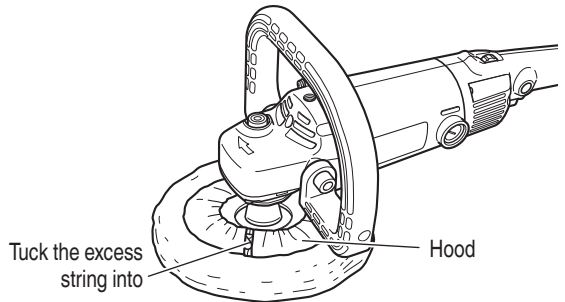

Fig. 7
- (1) Insert the washer nut (optional accessory) through the rubber pad (optional accessory) and thread it onto the spindle.
- (2) Press the lock pin to secure the spindle and tighten the washer nut with a wrench.
- (3) Wrap the rubber pad with the hood of the wool bonnet (optional accessory) and firmly secure it by tying a string around it. Be sure the excess string is firmly tucked inside the wool bonnet to prevent it from flying out while polishing.
- The unbalanced fitting of the wool bonnet may cause vibration (Fig. 7).
- (4) To remove the wool bonnet, follow the above-mentioned procedure in reverse order.